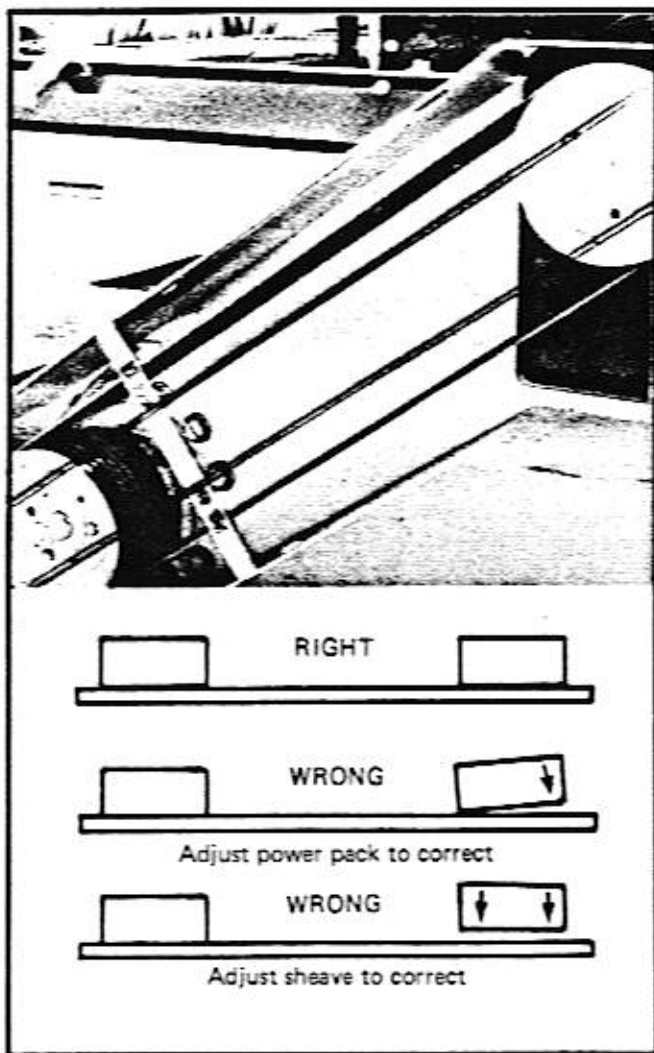

Figure 14-10
4. Use a straight edge to check the vertical and horizontal alignment of the two sheaves. See Figure 14-10.